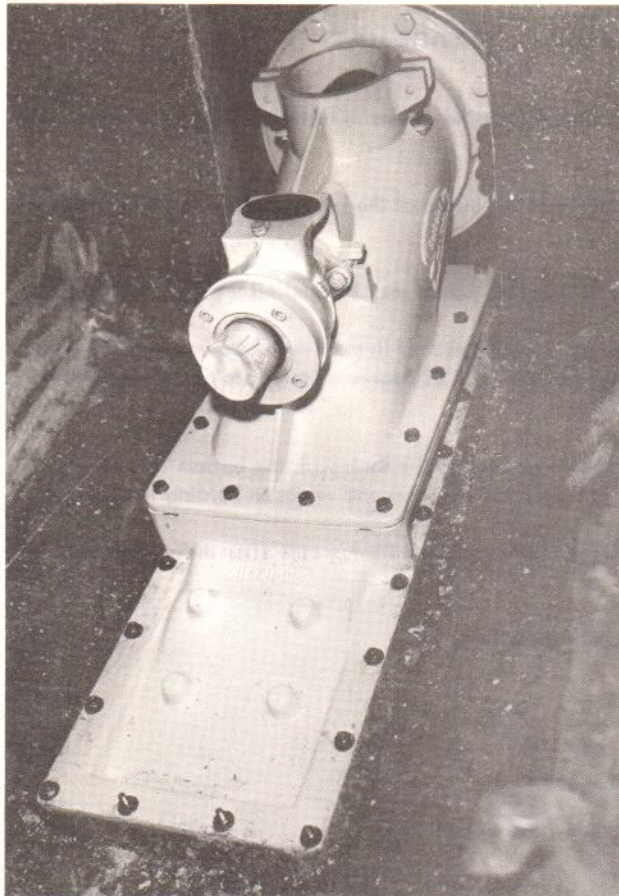

Figure 8
- Bolt the Jet-Drive, with gasket in place, to suction thru-hull casting. Make certain all bolts are tightened now because the rear bolts will be difficult to get at later (Figure 8).